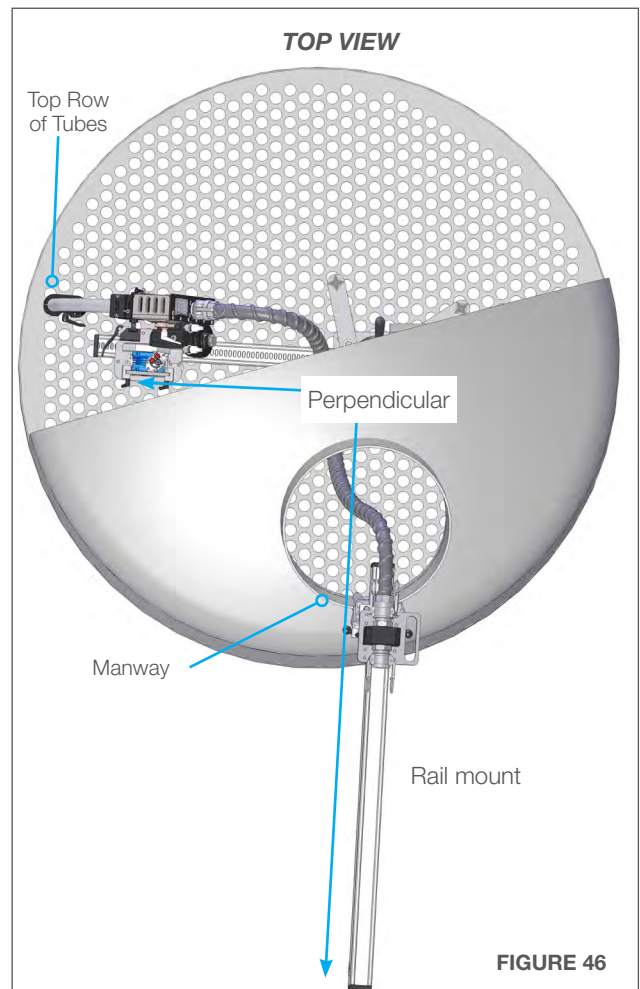

FIGURE 46
1. Correct placement of the Rail Mount in relation to the Linear Drive Rail should be more or less Perpendicular. This position helps relieve stress on the Snout and allows the hose to travel more freely. **(Figure 46)**